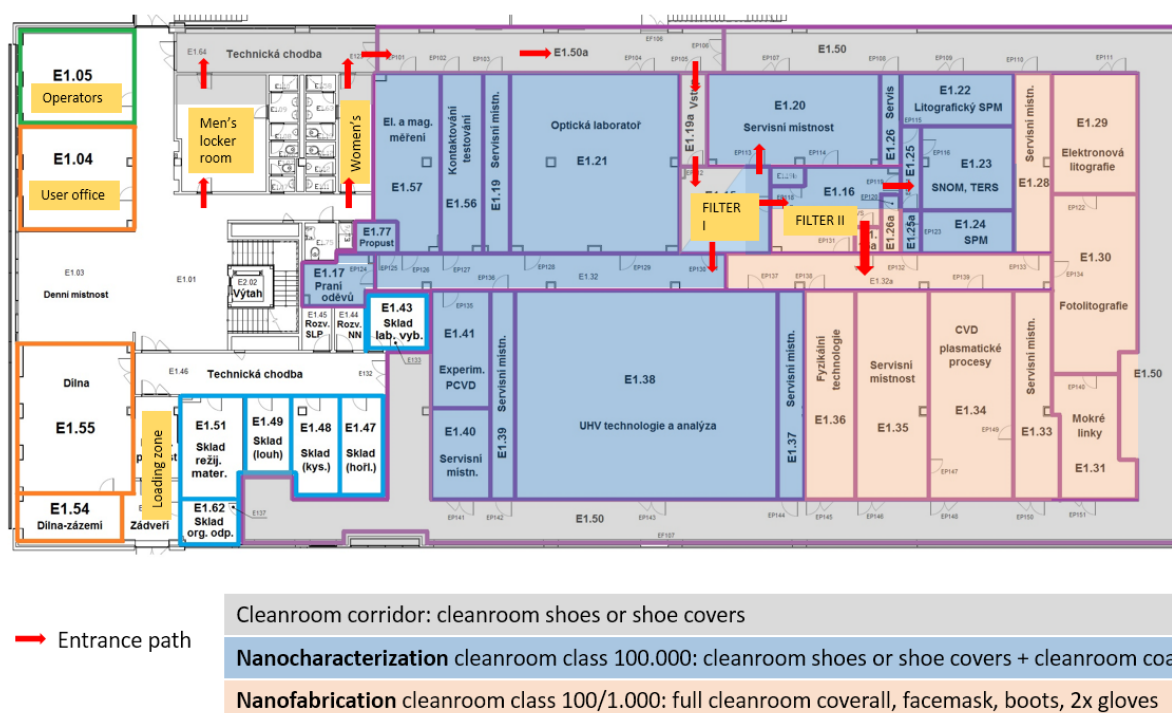

Figure 1: Entrance path to the cleanroom.
4. Proceed to gowning area via room C1.19a. (see red arrows in figure 1).